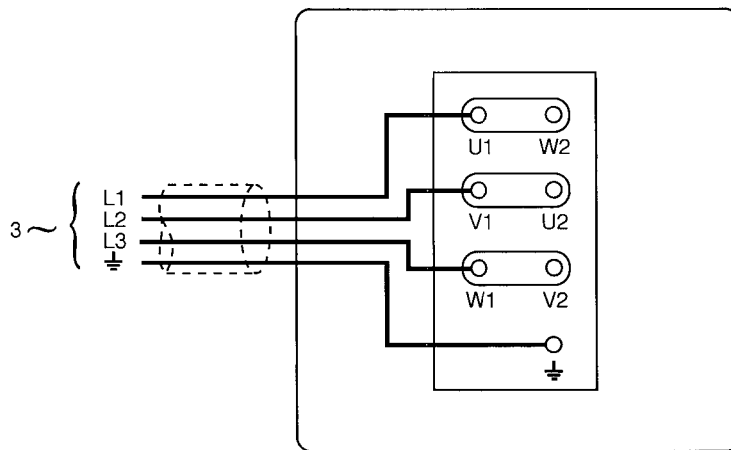

Figure 4 -Electrical supply connection, three-phase motors, 200 V 50 Hz, 200-210 V 60 Hz, 220-240 V 50 Hz or 230 V 60 Hz
2. Check your electrical supply voltage and frequency. If necessary, configure the motor to operate with your electrical supply (see Figures 4 and 5).
6. Connect the cables to the terminals as shown in Figures 4 and 5.
- Remove the terminal-box cover and swap wires L1 and L3 (see Figures 4 and 5).